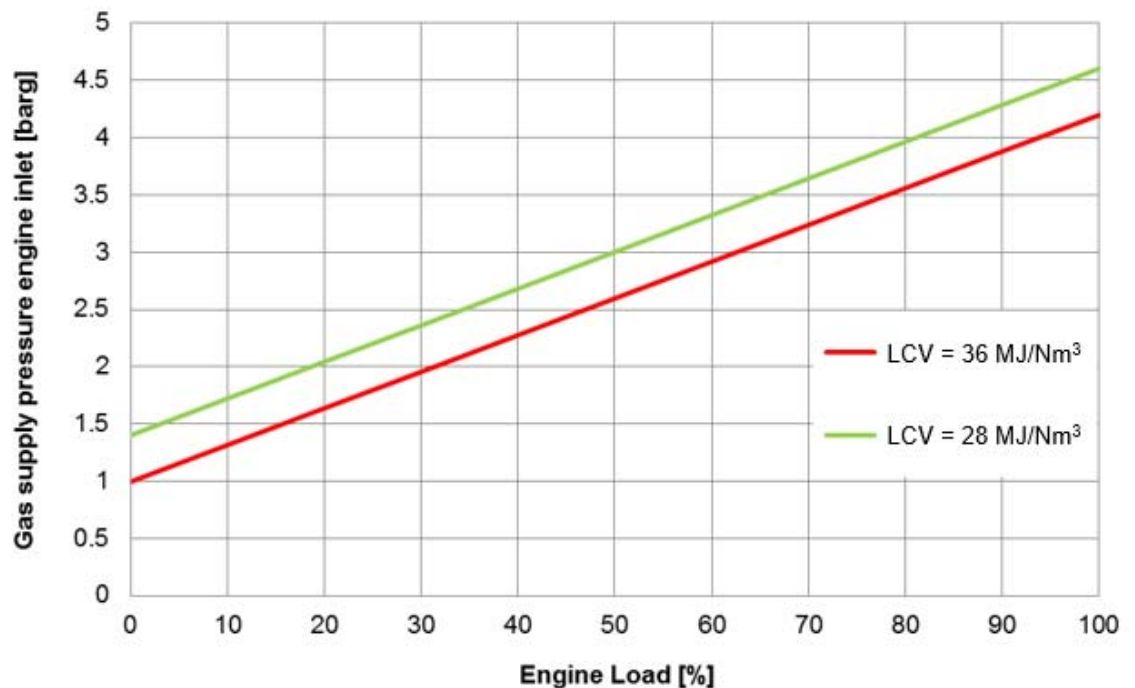

Figure 5.2 Gas supply pressure at engine inlet
- ✓ Refer to Figure 5.2 for required gas pressure
Gas supply pressure can be interpolated in case of 36 MJ/Nm^3 and 28 MJ/Nm^3 of gas lower heating value as Figure 5.2. The gas supply pressure at gas regulating unit inlet, G11 (See the diagram Figure 6.7) should be considered as followings;